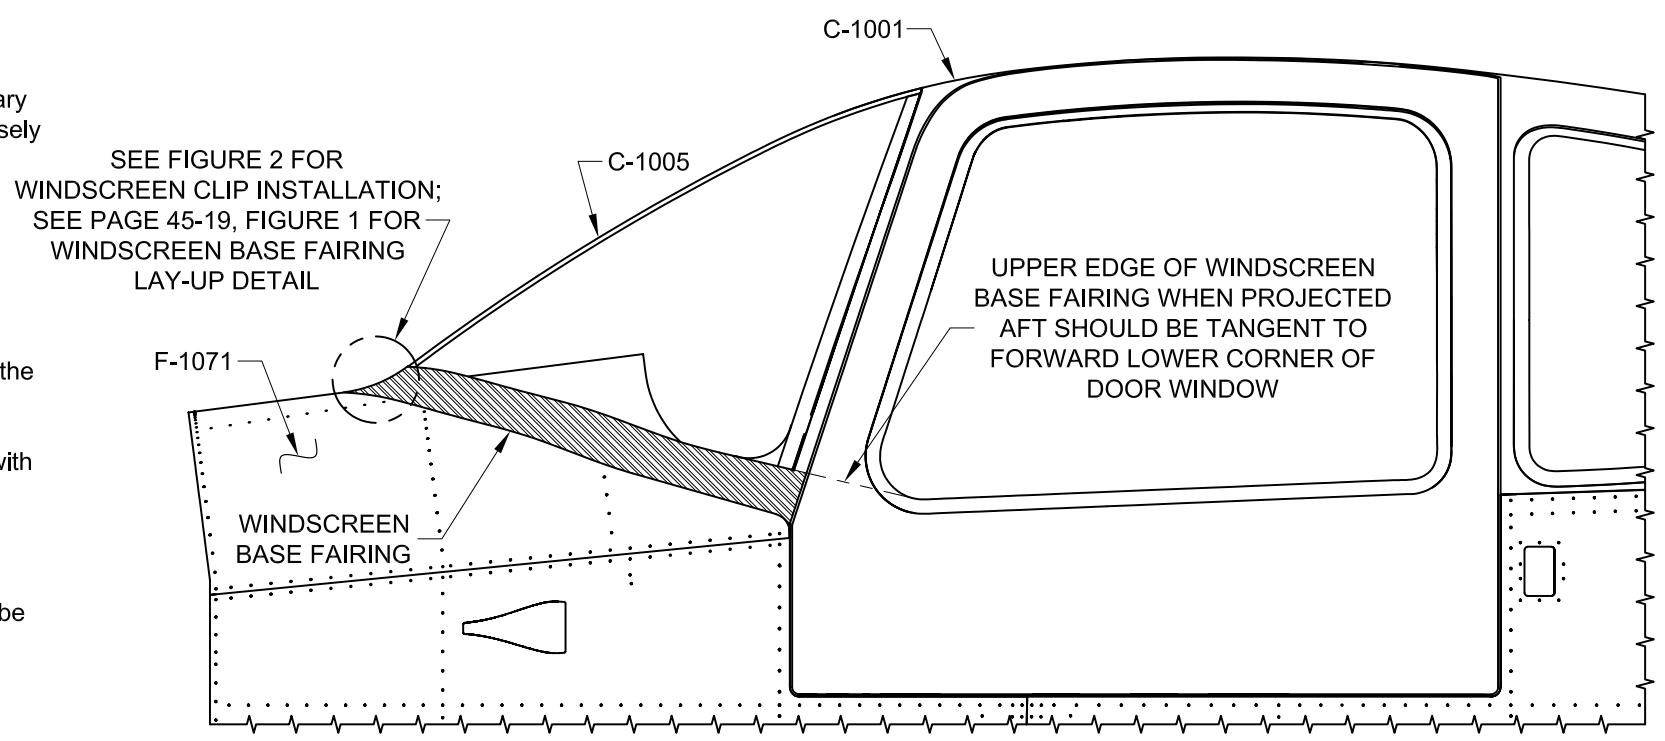

FIGURE 1: WINDSCREEN BASE FAIRING
Step 1: Apply a fillet of microballoons and epoxy to fill the gap between the edge of the C-1005 Windscreen and the F-1071 Fwd Fuse Top Skin. See Figure 1. This is the foundation upon which strips of glass cloth will be built-up to form the windscreen base fairing.